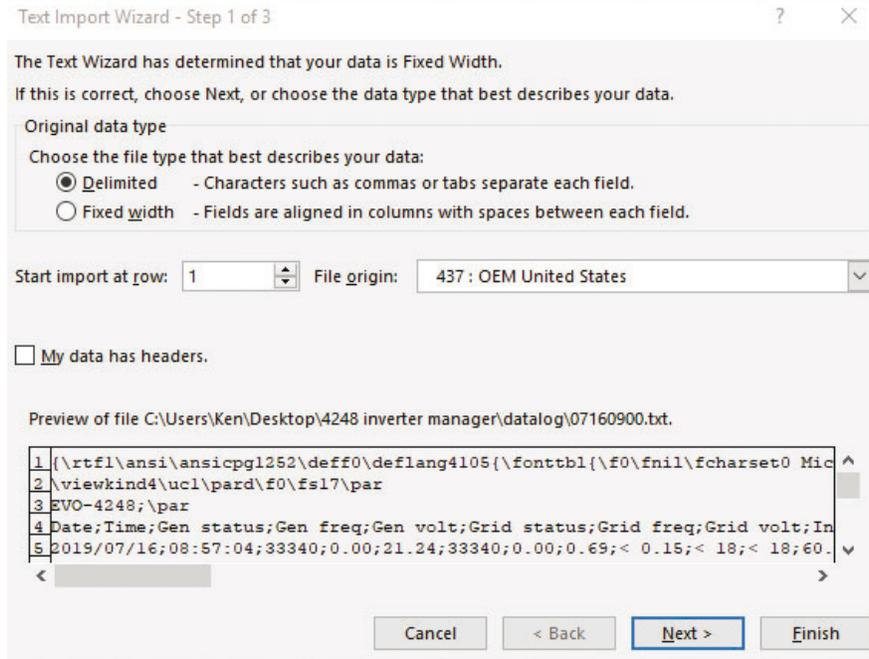

Fig 5.5 Screen showing Step 1 of 3 of "Text Import Wizard" in Excel
- "Text Import Wizard – Step 1 of 3" will be shown (*Fig 5.5*). Choose "Delimited" File Type".